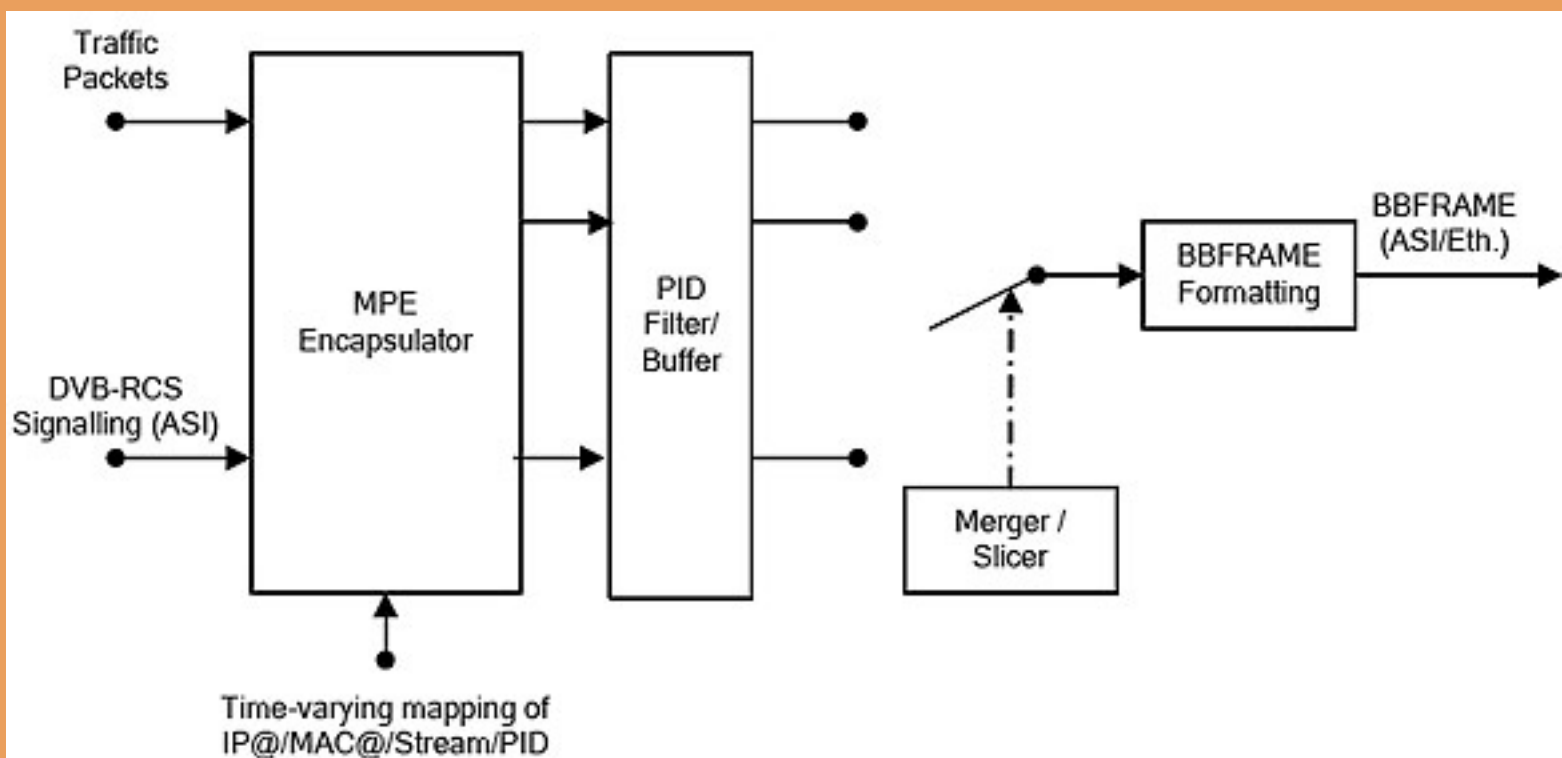

Figure 5: Gateway Architecture for DVB-S2 ACM Systems
• **Systems Employing DVB-S2 with ACM** — In ACM mode, the encapsulator performs a number of functions in addition to what it does in CCM mode. *Figure 5* shows a conceptual block diagram of the IP encapsulator for ACM operation. The Company emphasizes that this is a conceptual diagram; there are many possible ways of implementing functionality equivalent to that described here.
❖ **Mode Adaptation Unit** — The primary function of the *Mode Adaptation Unit* (MAU) is to re-organize the incoming packets into DVB-S2 frames and to deliver these to the modulator. The main functional elements of the MAU are shown in *Figure 5*. The MPEG packets contained in the transport stream delivered by the IP encapsulator are routed to a number of different buffers, based on the PID value. There is one buffer per supported MODCOD. A device known as the “merger/slicer” controls a switch which guides packets off the buffers and into a device which formats them into DVB-S2 frames; at this point known as Baseband Frames (BBFRAMEs). The BBFRAME formatting consists largely of adding a header. Complete BBFRAMEs are delivered to the modulator.